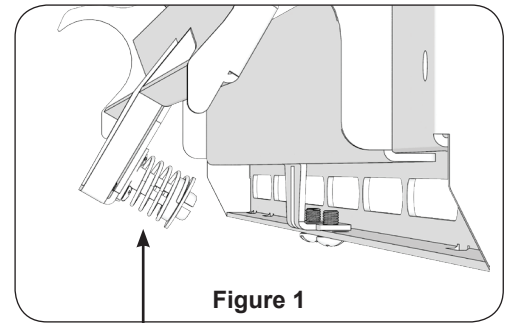

Figure 1
1. Push evenly in the front of the PFW6870 to release the single latch spring lock (Figure 1).